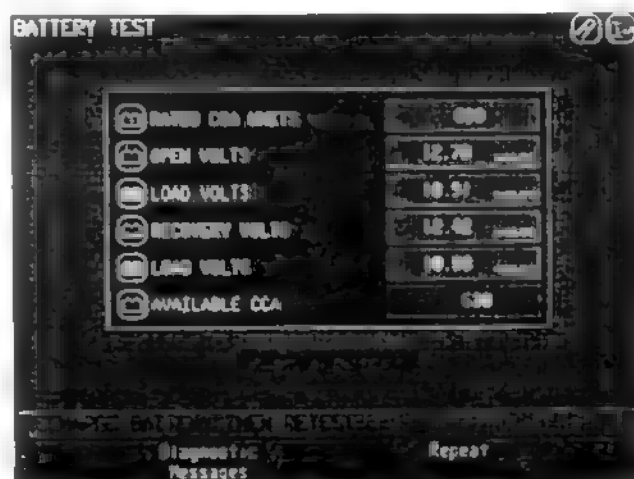

Figure 3-2
- 2 The test will run and the results screen will appear (see Figure 3-2).